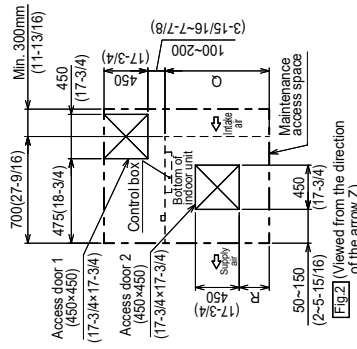

Fig. 2 [Viewed from the direction of the arrow Z]
- Create access door 1 and 2 (450x450mm each) as shown in Fig. 2.